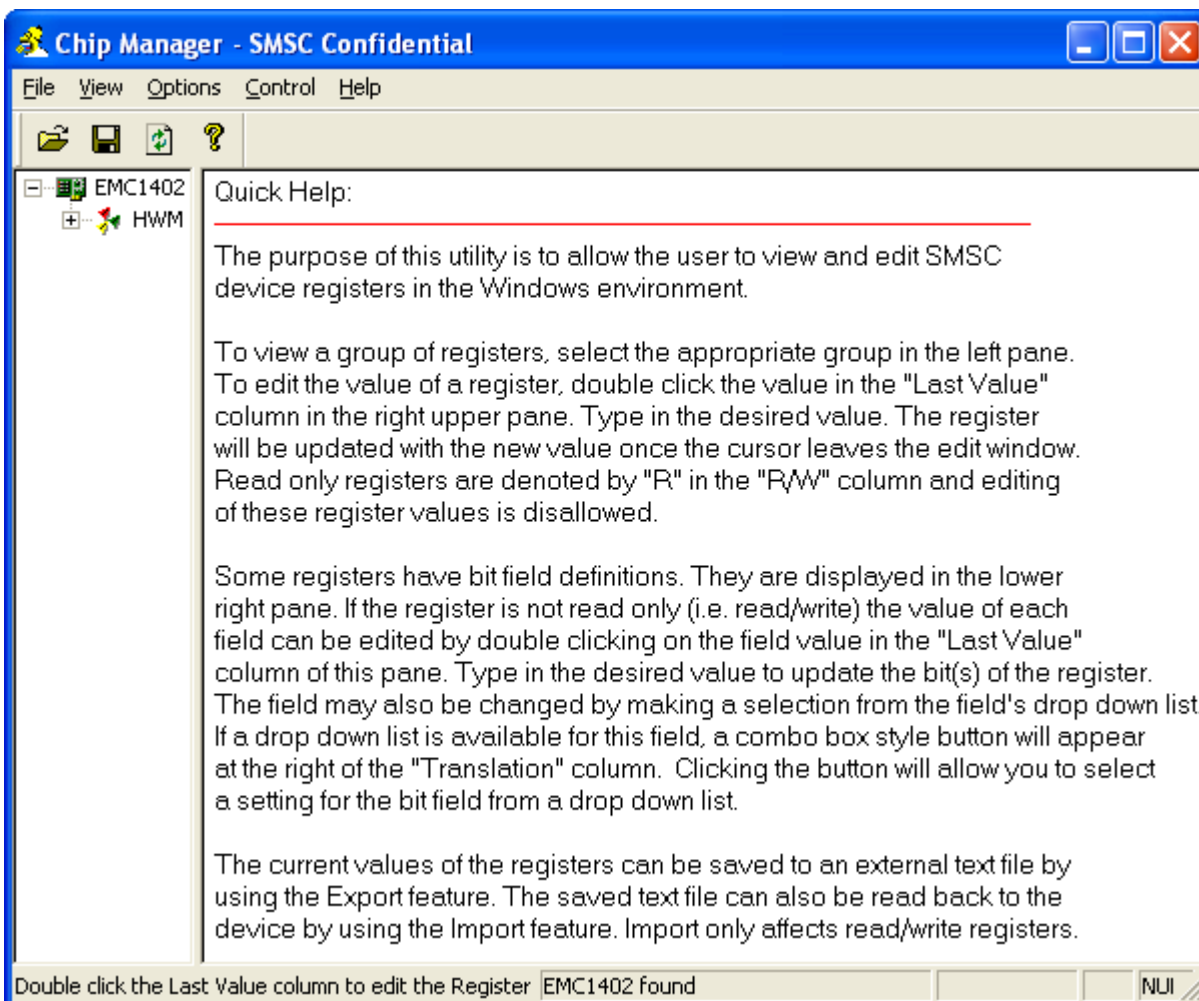
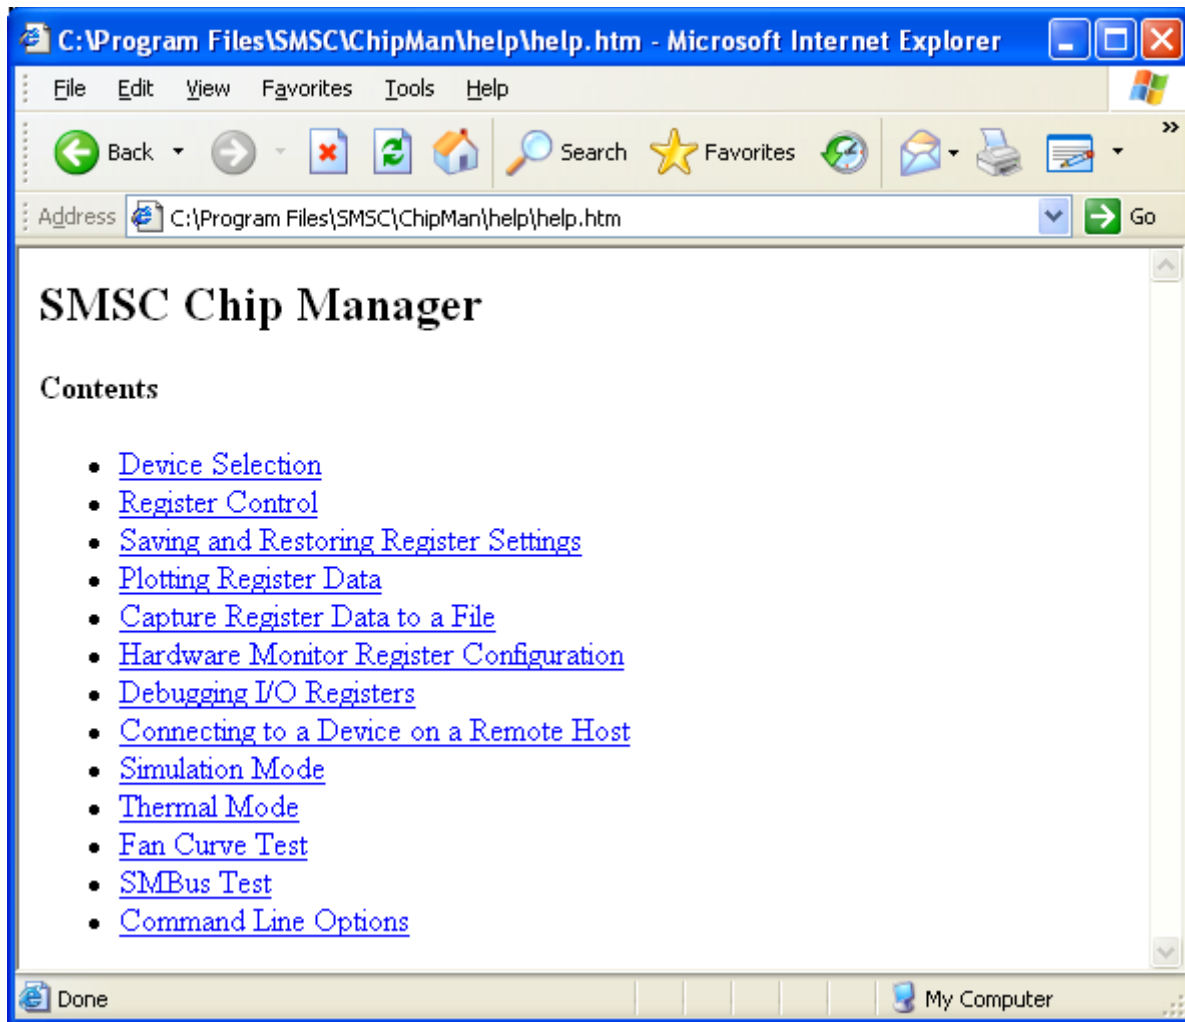

Figure 2.1 Chip Manager Quick Help Startup Screen
Figure 2.2 Chip Manager Help Screen
3. Start the EVB Software by selecting the Chip Manager application from the SMSC folder from the Programs Windows Start menu. The EVB will initialize and the Chip Manager Quick Help screen will appear as in Figure 2.1. The USBAct LED should be blinking when the Chip Manager is running. For more help with Chip Manager, select Help -> Contents for an html based help document as shown in Figure 2.2.